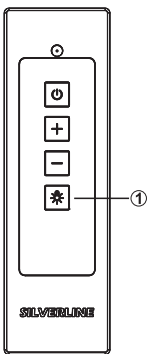

Fig. 18: Switching the light on/off
1. ➔ Press \* (Fig. 18/1) the button.
2. ➔ Press \* (Fig. 18/1) the button once more.